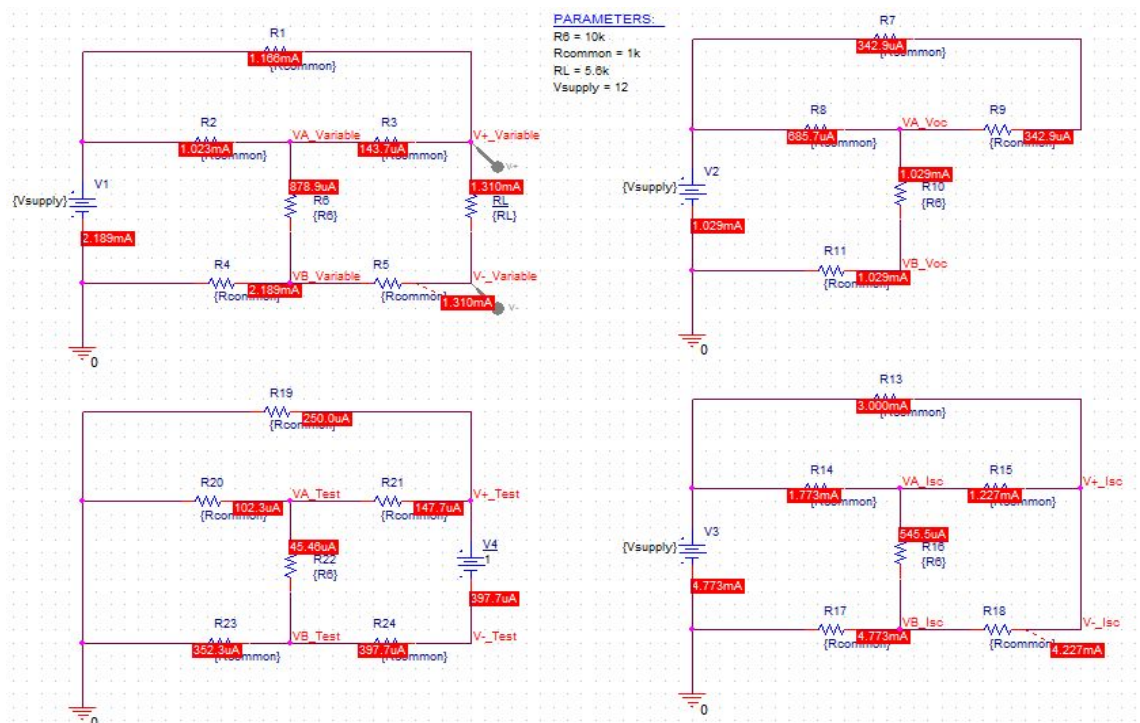

Figure 1.2.2: Screen shot of the PSPICE schematic with current markers.
- Refer to Fig. 1.2.2 with a screen shot of the schematic in PSPICE with current markers for the I_{sc} test. As you likely have already placed this figure in your theory section, there is no need to do so a second time.
- Refer to the Fig. 1.2.2 with a screen shot of the schematic in PSPICE with current markers for the Test signal. As you likely have already placed this figure in your theory section, there is no need to do so a second time.